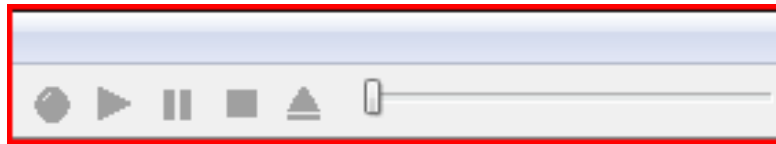

Figure 4: Top-right hand side of TunerPro RT
In Figure 4:
- c. In the lower left corner of the screen (See Figure 4), where originally there was the statement “Hardware not found,” will be “Initializing.” Once completed, your Buell ECM firmware type will show up in the same box.